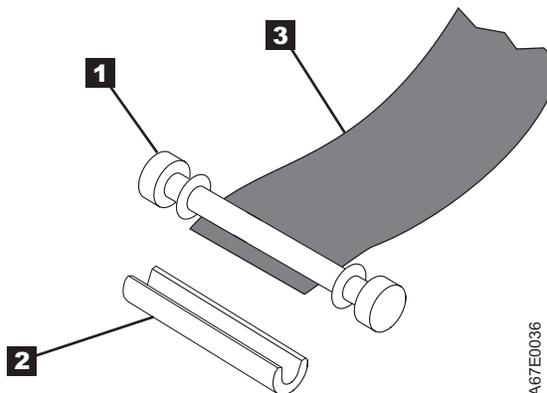

Figure 14. Removing the C-clip from the leader pin. Use your fingers to push the C-clip from the leader pin.
5. On the leader pin (**1** in Figure 14), locate the open side of the C-clip (**2**). The C-clip is a small black part that secures the tape (**3**) to the pin.